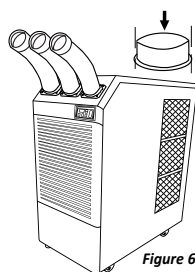

Figure 6
3. Use screws (enclosed inside of box with the top fan exhaust flange) to install the top fan exhaust flange on air conditioner as shown in Figure 6.